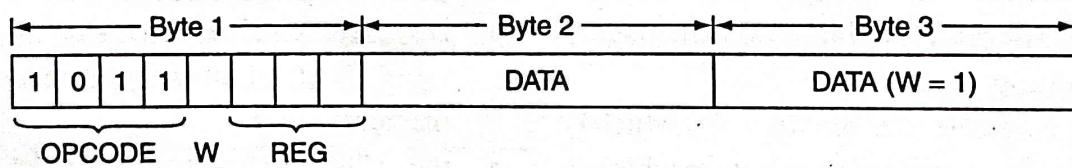

Figure 3 Instruction template for immediate to register MOV instruction.
Figure 3 shows the format of the “immediate to register” MOV instruction. It is used to load a byte or a word into the register. As shown in the figure, the first byte is divided into three fields: 4-bit OPCODE, 1-bit word size (W) and 3-bit register (REG) fields. The value of OPCODE for this instruction is 1011. If W = 0, the operand is 8-bit (i.e., byte) and if W = 1, the operand is 16-bit (i.e., word). The last three bits specify the binary code for destination register. The binary codes for the 8086 registers are shown in Table 1. The second byte in the template specifies the 8-bit immediate value to be stored in the destination register if W = 0. The third byte is not required if W = 0. Second and third bytes together specify 16-bit immediate value to be stored in destination register with lower byte in second byte and higher byte in third byte if W = 1.